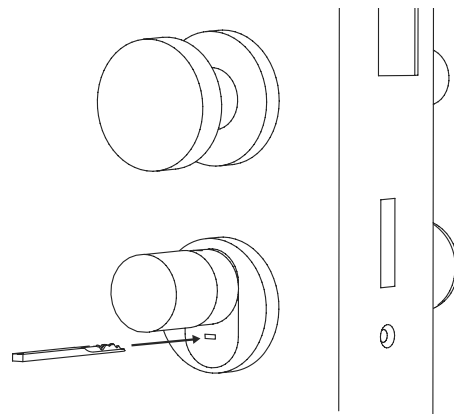

Fig. 11
① To open the lock, open the emergency key at the joint and then insert it through the indicated slot on the emergency lock cover (Fig. 11).
② Turn the key 90 degrees clockwise. If required, move the outside knob slightly to the right and left in order to release the mechanism. The lock is open after at least two full turns of the cylinder knob.
③ After opening the door, turn the emergency key back to its original position (90 degrees counter-clockwise) and remove it.
④ To return the locking cylinder to its regular locking position, turn the outside knob two complete turns in both directions. This engages the mechanism and the emergency lock is fully closed.